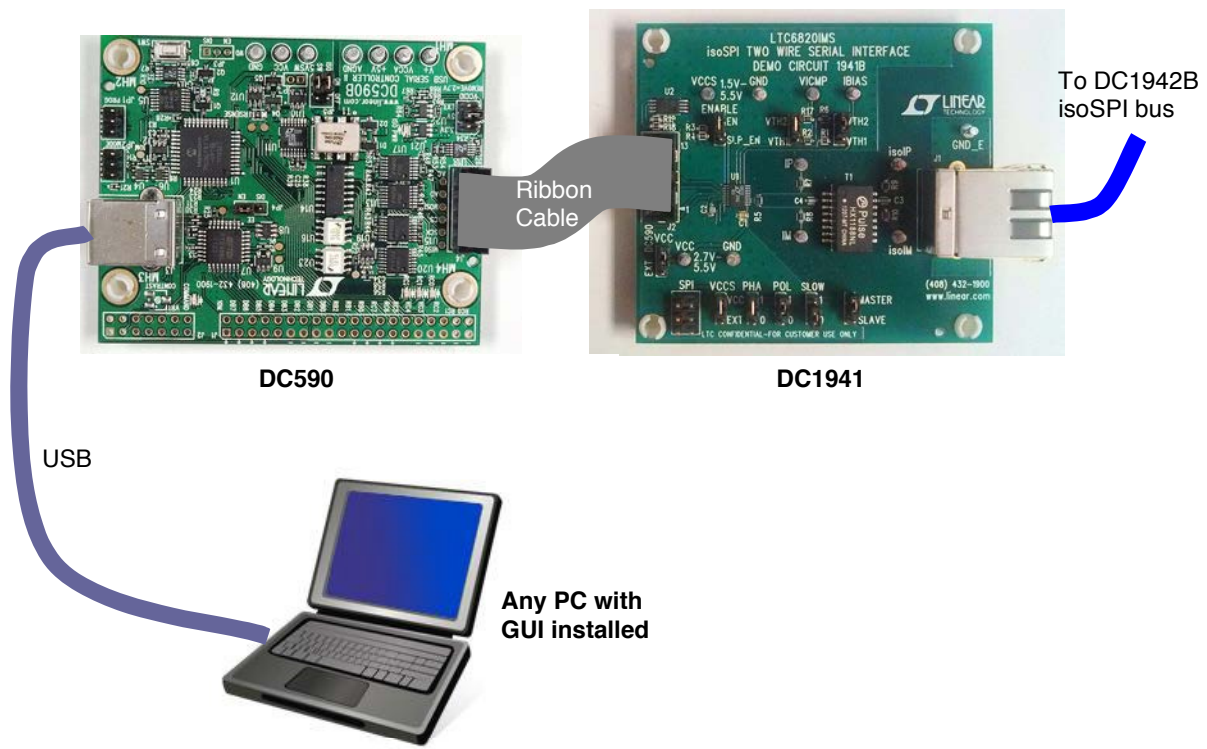

Figure 4. Connections for Setting Up isoSPI Master
1. Connect a USB cable from the host computer to the DC590 as in Figure 4.
2. Connect a 14-pin ribbon from DC590 to the SPI connector (J2) of a DC1941 as in Figure 4.